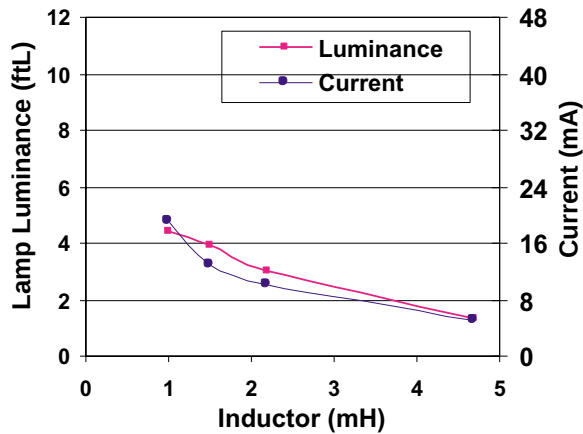

Figure 3: $V+=1.5V$, 1 in² EL Lamp
The external inductor (L) selection for a D356A circuit greatly affects the output capability and current draw of the driver. A careful designer will balance current draw considerations with output performance in the choice of an ideal inductor for a particular application. Figures 3, 4, and 5 show typical brightness and current draw of a D356A circuit with different inductor values, lamp sizes, and supply voltages. Please note that the DC resistance (DCR) of inductors with the same nominal inductance value may vary with manufacturer and inductor type. Thus, inductors made by a different manufacturer may yield different outputs, but the trend of the different curves should be similar. Lamp luminance is also a function of lamp size. In each example, a larger lamp will have less luminance with approximately the same current draw.